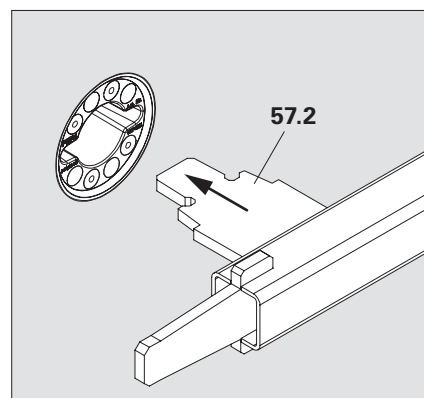

Fig. A6.17c
4. Insert the retaining lug (57.2) into the openings. (Fig. A6.17c)